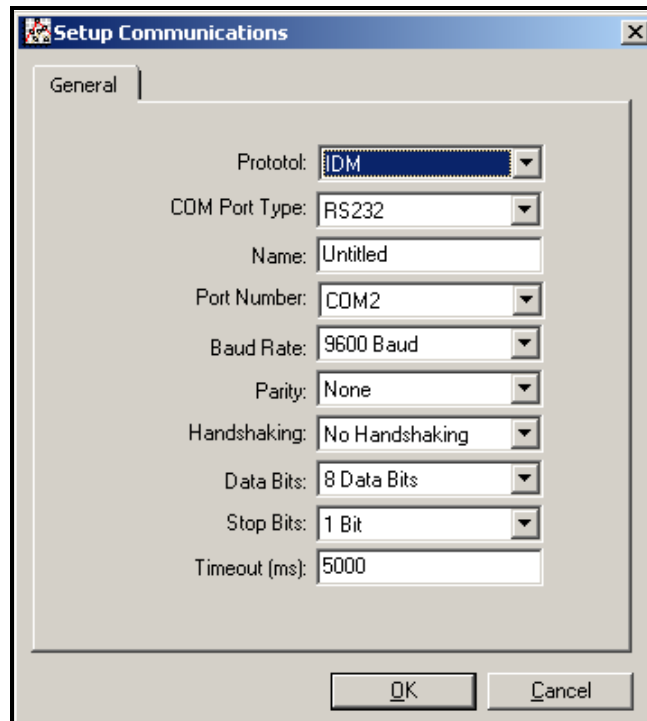

Figure C-2: Setup Communications Screen
- Click on the *Communications Port* option to select it. The *Setup Communications* screen appears similar to Figure C-2 below.